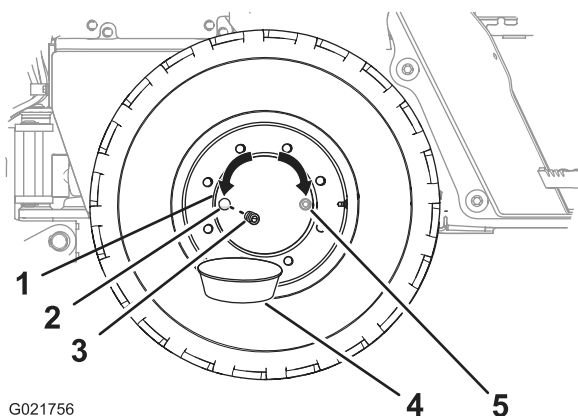

Figure 89
2. Move the machine forward or backward until the plug for the wheel hub is at either the 3 o'clock or 9 o'clock position (Figure 89).
4. Place a drain pan under the drain port in the wheel hub (Figure 89).
5. Remove the plug from the wheel hub (Figure 89).
6. Check that the oil level is at the bottom of the threads of the oil port (Figure 89).
8. Install the plug in the oil port of the wheel hub (Figure 89).